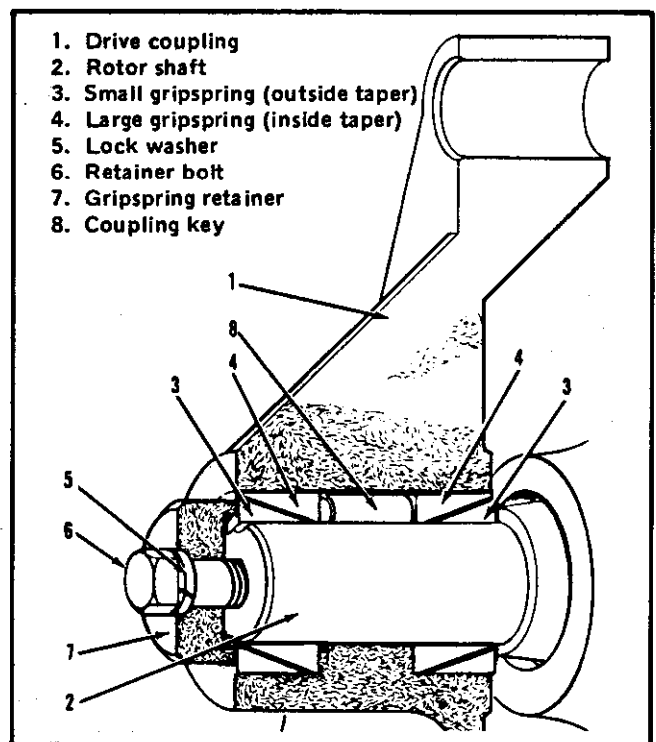

Figure 3-7. Gripspring installation
e. At assembly of gripsprings (73, figure 5-10), it is essential that they be installed correctly to obtain proper grip to secure drive coupling to shaft. Improper installation will result in slippage of coupling on shaft causing excessive wear. Refer to figure 3-7 and assemble as follows:
(2) Position one of the larger gripsprings (4, figure 3-7) over smaller gripspring (3), just assembled on shaft, so that the beveled edges match.
(3) Install key (8 , figure 3-7) in keyway on shaft. Slide coupling (1) on shaft over key (8) and gripsprings (4, 3) until coupling seats.
(4) Position second larger gripspring (4) in coupling bore with beveled edge facing outward.
(5) Install second smaller gripspring (3) on shaft with beveled edge matching with gripspring (4).
(6) Position gripspring retainer (7) and secure with washer (5) and bolt (6). Torque bolt (6) to 45 foot pounds.